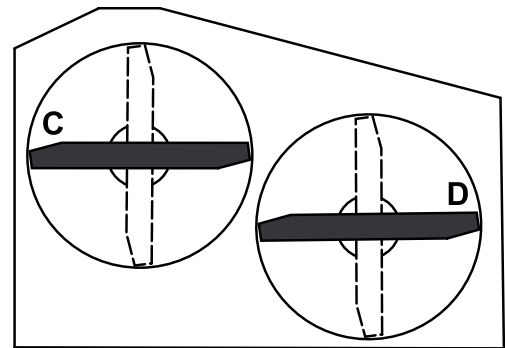

Figure 62
2. Position the blades side-to-side. Measure at **C** and **D** locations from a level surface to the cutting edge of blade tips (Figure 62).